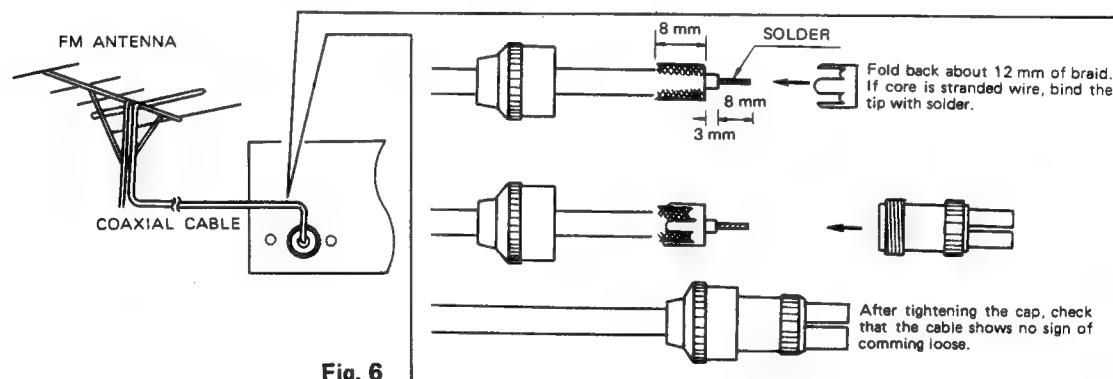

Fig. 6
(4) ANTENNA INSTALLATION
- FM OUTDOOR ANTENNA CONNECTION (Fig. 6)